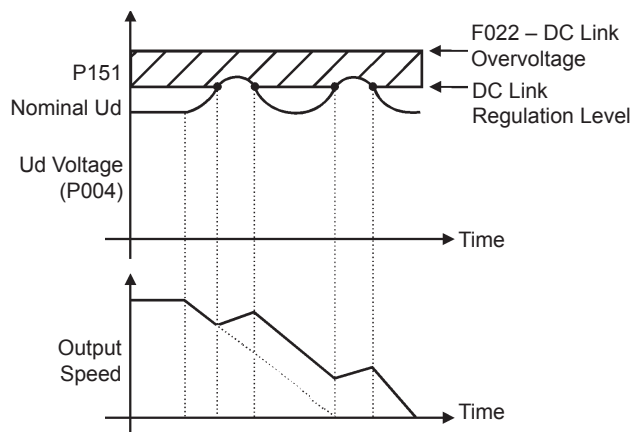

Figure 6.14 - Deceleration with DC link voltage regulation
**DC Link Regulation with Proportional Gain – When P152 > 0.00 and P151 is different from the maximum value.** When the DC link voltage reaches the regulation level (P151), the deceleration ramp is extended and the motor is accelerated until the DC voltage becomes lower than the regulation level. Refer to figures 6.14 and 6.15.
| P152DC Link RegulatorProportional Gain(Only for V/FControlP202 = 0, 1 or 2) | 0.00 to 9.99[ 0.00 ]0.01   | <div data-bbox="639 349 1374 546" data-label="Diagram"> </div> <p data-bbox="748 566 1267 591">Figure 6.15 - DC link voltage regulation block diagram</p> <p data-bbox="643 647 1003 676">Vector mode (P202 = 3 or 4):</p> <ul style="list-style-type: none"> <li data-bbox="612 696 1404 790">☑ P151 defines the DC link regulation level during braking. During the braking process, the deceleration ramp time is automatically extended, thus avoiding overvoltage fault F022.</li> <li data-bbox="612 808 1404 837">☑ The DC link voltage regulation operation can be set in two forms:                         <ol style="list-style-type: none"> <li data-bbox="612 855 1404 949">1. With losses (Optimal Braking) - Set P150 = 2. In this mode the rotor flux current is applied in a manner that increases the losses in the motor, thus increasing the braking torque.</li> <li data-bbox="612 967 1404 1028">2. Without losses - Set P150 = 1. It only activates the DC link voltage regulation.</li> </ol> </li> </ul> <ul style="list-style-type: none"> <li data-bbox="612 1473 1003 1503">☑ Refer to P151 and figure 6.14.</li> <li data-bbox="612 1543 1404 1637">☑ If P152 = 0.00 and P151 is different from the maximum value, then the Ramp Holding function will be active. Refer to P151 in V/F mode.</li> <li data-bbox="612 1677 1404 1760">☑ P152 multiplies the DC link error (error = actual DC link - P151). P152 is typically used to prevent overvoltage with eccentric load applications.</li> </ul> |